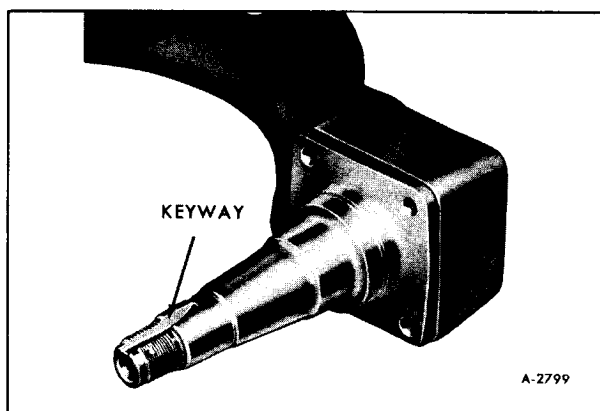

Figure 5
1. Install new spindle with keyway up as shown in figure 5 using old bolts and nuts to draw spindle into suspension arm.